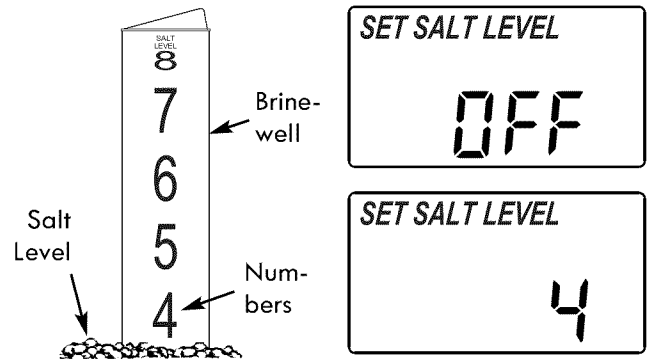

Figure 20
2. The salt level scale, on the brinewell inside the tank, has numbers from 0 to 8 (see Fig. 20). Observe the highest number the leveled salt is at, or closest to.